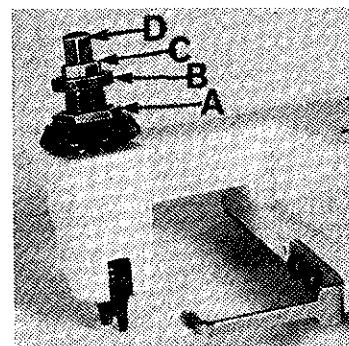

Fig. 2
Sufficient presser foot pressure to feed work uniformly should be maintained. Should it be necessary to increase or decrease amount of pressure on presser foot, loosen lock nut (A, Fig. 2) and turn adjusting screw (B). Adjusting screw has a right hand thread, so tightening increases pressure, loosening decreases pressure. When pressure adjusting screw (B) has been properly set, tighten lock nut (A). With presser foot resting on throat plate, position locking nut (C) so that its under surface is approximately $1/32$ inch to $1/16$ inch (.79 to 1.59 mm) from the top surface of adjusting screw (B). Set cap (D) against locking nut (C).